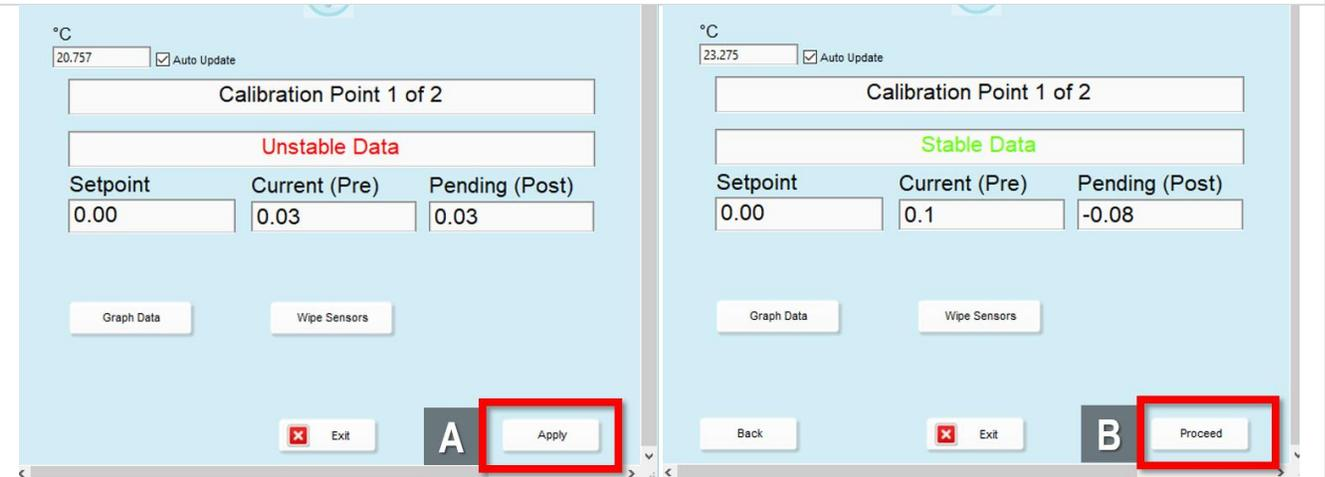

Figure 109. Click "Apply" and then "Proceed" when the Data are Stable for the Chlorophyll Sensor
**STEP 4** | When the window displays Stable Data in green, select the option to “**Apply**” (A in Figure 109). Then click “**Proceed**” (B in Figure 109).